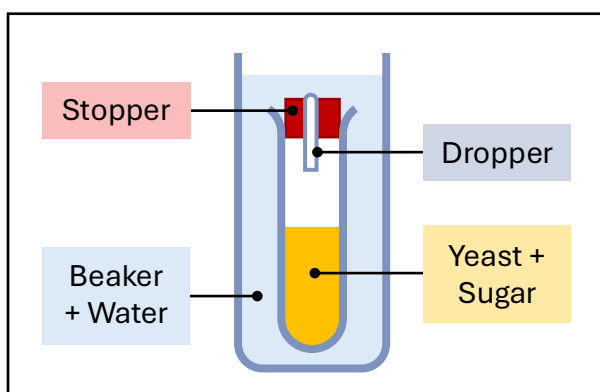

Figure 1: Diagram of Experimental Setup
7. Allow tubes to sit undisturbed for no less than 5 minutes (see figure 1 for experimental setup).